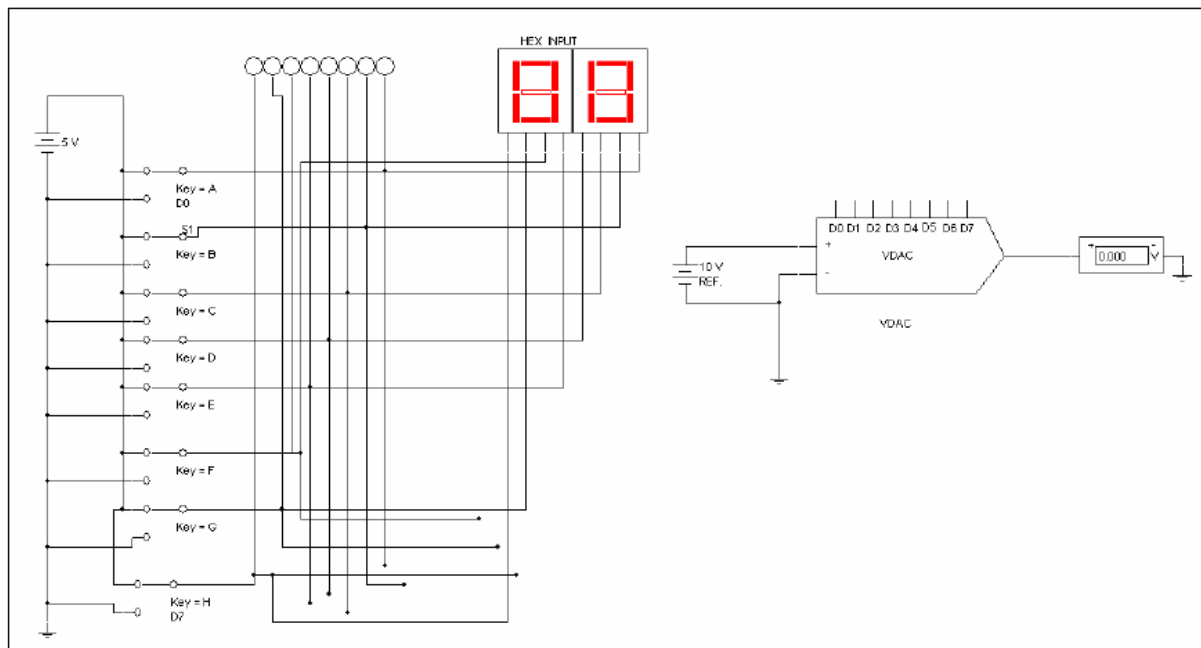

Fig.2 ADC
3. Connect the circuit components illustrated in Figure 2.
- a. Analog Output (V) = Digital Output in decimal * $V_{ref} / 256$.